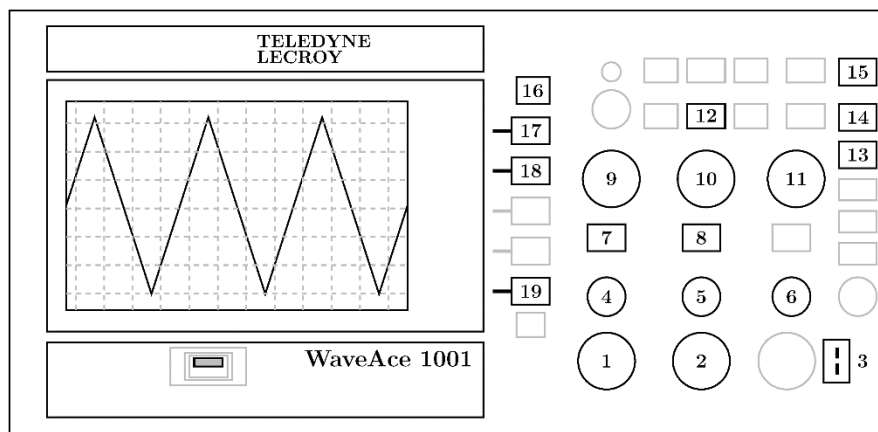

Figure 1: Oscilloscope Controls Digital Storage Oscilloscope
1 nanosecond. The sketch of the scope in Figure 1 includes a triangular wave signal, a voltage that, as a function of time, continually (*and linearly*) ramps up and down between two limiting voltages. The operation of the DSO is described in detail in Appendix IX. You should read that appendix before attempting this lab.
Figure 1 is a diagram of the front panel
Turn the oscilloscope POWER switch on. It is located on the top left of the device. This is a dual-trace oscilloscope (*it has two quasi-independent inputs*), so you must **select channel 1 [CH 1 (7)] for the following measurements.** (*The numbers in parentheses refer to the control locations shown in Figure 1 and are described in Appendix IX.*)